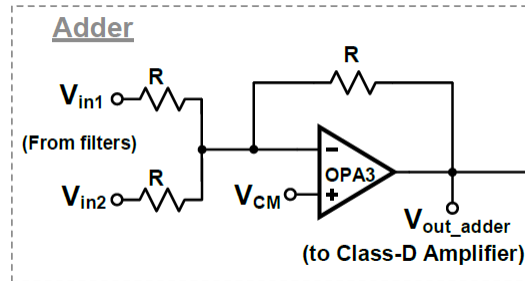

Figure 9 Schematic diagram of an adder.
2. Design and simulate the entire circuit shown in Figure 9 with above calculated values. Verify the operation with measurements 1 to 7.